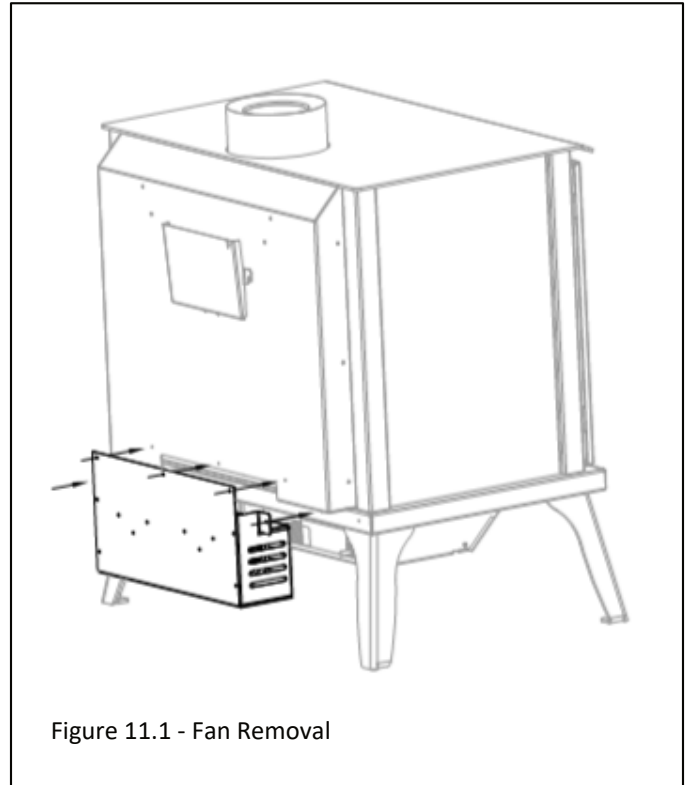

Figure 11.1 - Fan Removal
2. Disconnect the wiring from the fan assembly from the control module. Remove the (5) screws securing the fan plate from the fireplace. See Figure 11.1. Pull the fan plate away from the fireplace.